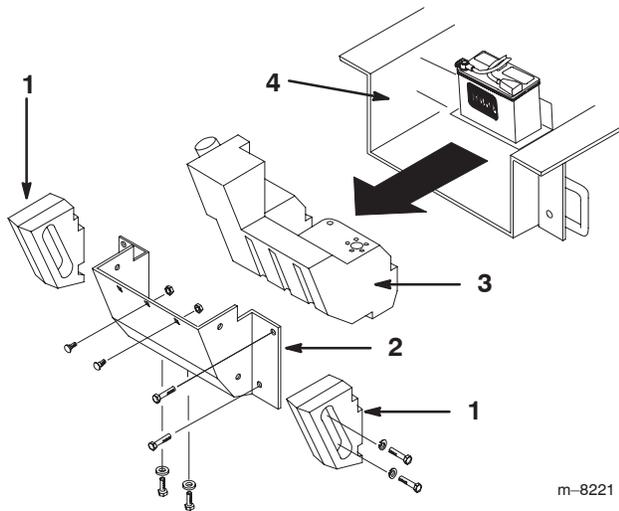

Figure 48
Over time, the chassis under the engine collects dirt and debris that must be removed. Using a flashlight, open the hood and inspect the area under the engine on a regular basis. When the debris is 1 to 2 inches deep, complete the following procedure (refer to Figure 48 throughout this procedure):
- Remove the bolts, washers, and lock washers securing the two side weights, removing the weights (Fig. 48).
- Remove the six nuts and bolts securing the rear panel, removing the panel (Fig. 48).
- Slide the fuel tank to the rear (Fig. 48).
- Slide the fuel tank part way into the chassis (Fig. 48).
21. Replace the rear panel and secure it with the six bolts and nuts removed previously (Fig. 48).
23. Install the side weights with the bolts, washers, and lock washers removed previously (Fig. 48).